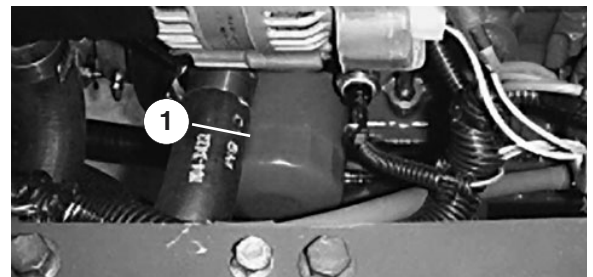

Figure 24
5. Remove and replace the oil filter (Fig. 24).